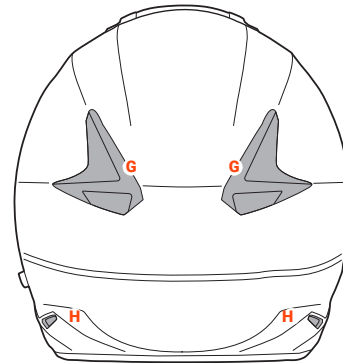

FIGURE 7
**REAR AIR VENTS – G – Figure 7**
**SIDE REAR AIR INTAKES – H – Figure 7**